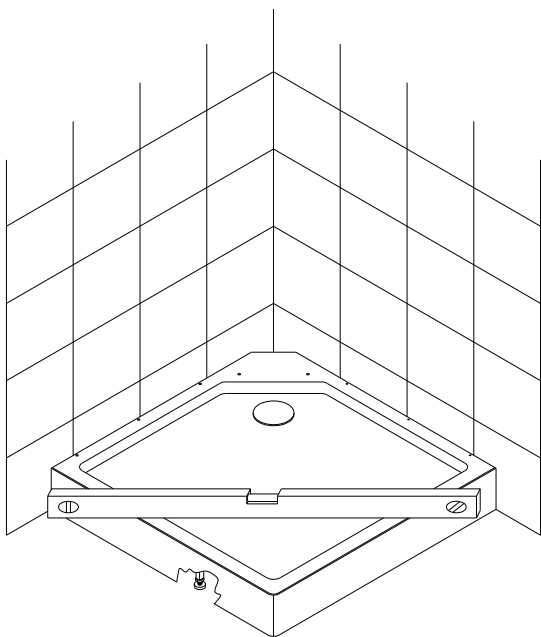

Fig 2
5. Place the **Tray (5)** in the required position. Adjust the legs to level the tray in case the surface is uneven. Fasten the counter nuts on the legs to secure the height. See Fig 2 for details.